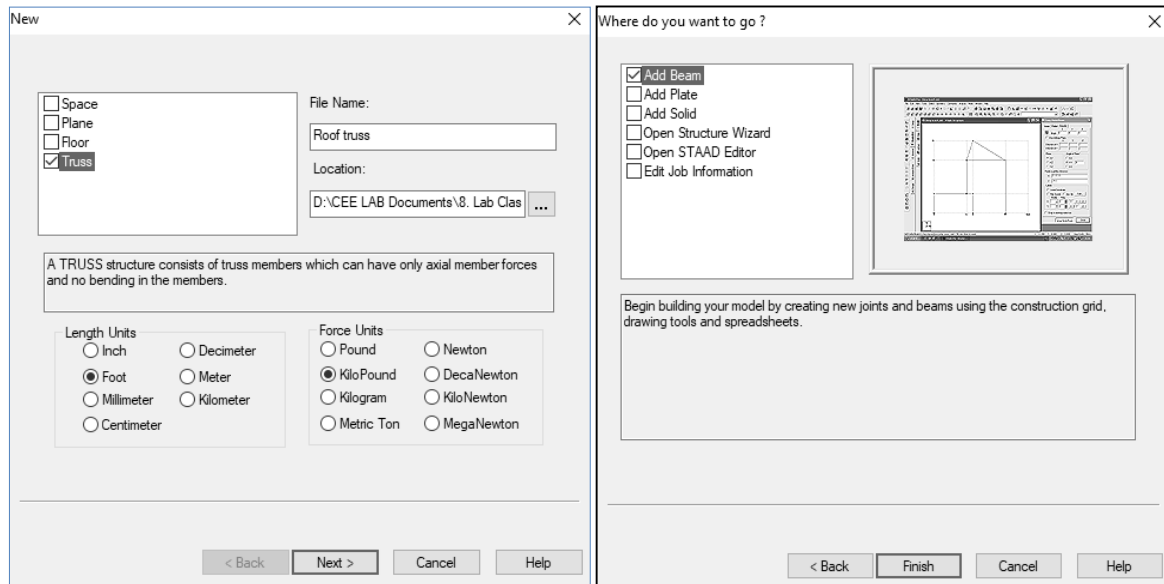

Fig: 4.3
1.1 Open STAAD Pro. software → File → New → Click on Truss → Write the File Name and select Location → Length Units = Foot, Force Units = Kilo Pound → Next → Add Beam → Finish. (Fig: 4.3)